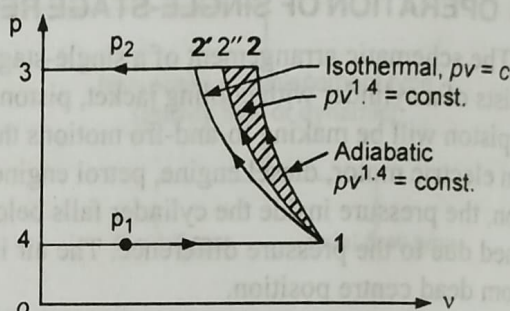

Fig. 10.5 Effect of type of compression on work done
1. Cold Water Spray. In this method, cold water is sprayed onto the cylinder during compression, thus reducing the temperature of the air. Without the cold water spray, the compression would have been adiabatic, or $pv^{1.4} = \text{const.}$ This effect is shown in Fig. 10.5, where now the compression would be between adiabatic and isothermal, or $pv^{1.2} = \text{const.}$ The work saved is represented by '1-2-2''-1'.